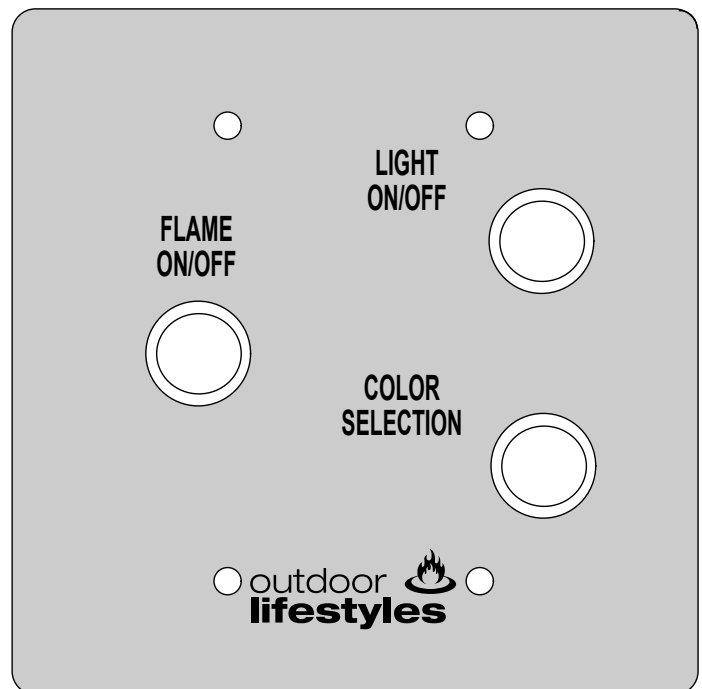

Figure 3.3. Wall Control Switch
The Lanai series appliance comes standard with a rocker switch and two (2) button wall control panel. See Figure 3.3